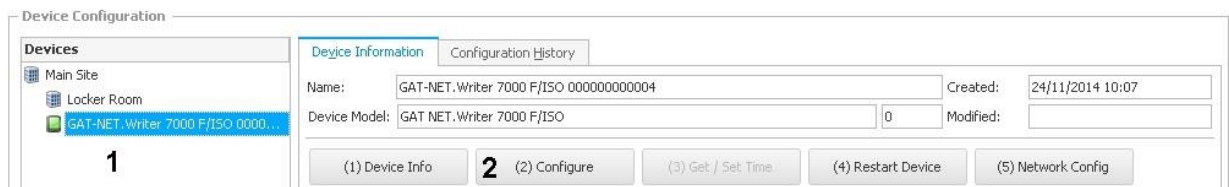

Figure 4.4 – View configuration settings
- Select the GAT NET.Writer 7000 F/ISO from the “Devices” tree (1 in Figure 4.4).
- Click on the “(2) Configure” button (2 in Figure 4.4).